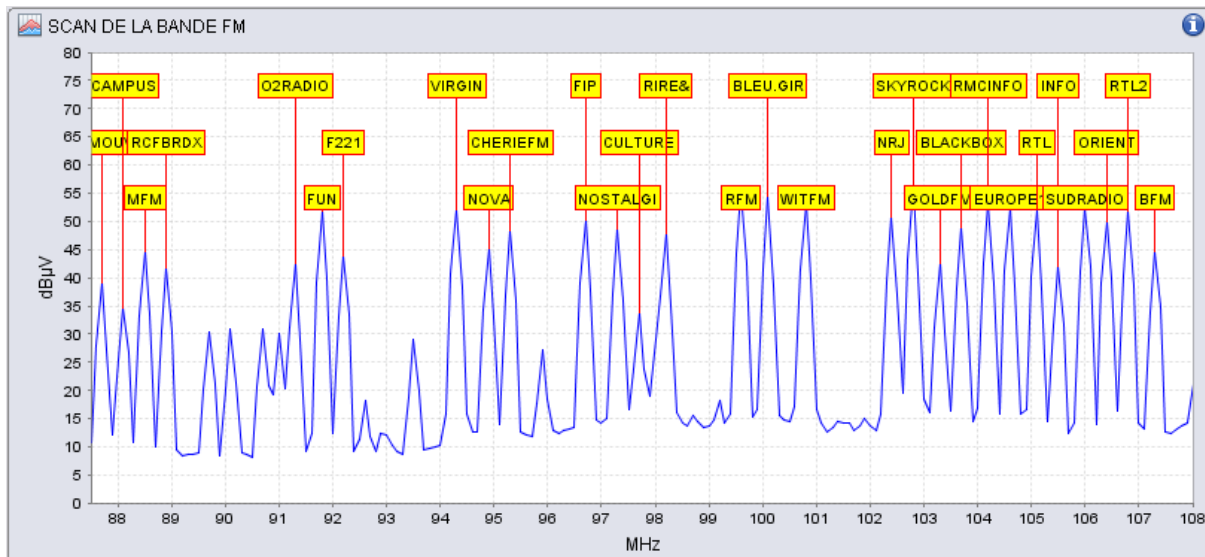

Fig. 1 – Identification scan of the FM Band (100 kHz step) at a monitoring site
- The energy distribution in the FM band depends on the RF level of all the signals found during the scan; a homogeneous band (i.e. all carriers have approximately the same level – see Figure 1) is a good base for monitoring, as there is no energy concentration on any specific frequency, thus there is no large RF differential between two monitored stations.